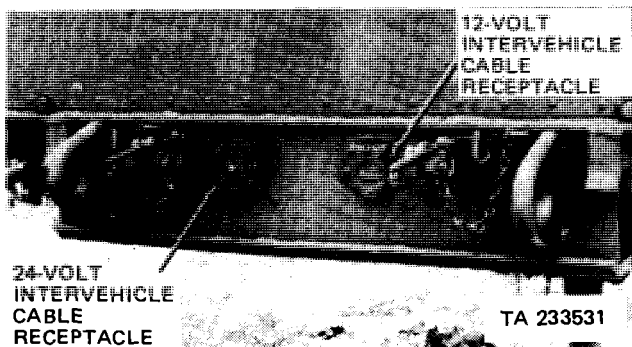

Figure 2-4. Intervehicular cable receptacles (All models except M127 and M127A1)
- b. Located on front chassis crossmember (figure 2-4).